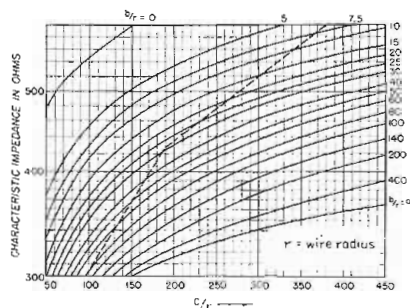
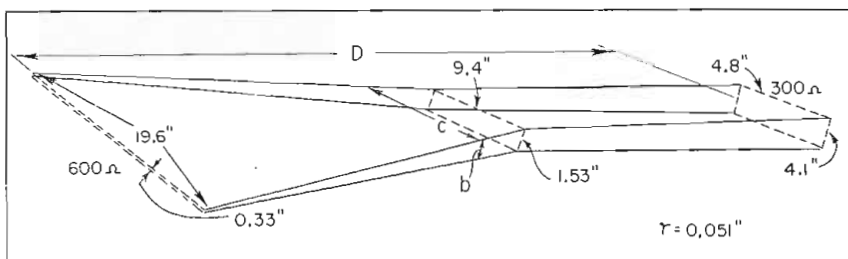

Fig. 2—Transmission-line characteristics
Fig. 1—Exponential transmission line using straight conductors
- (a) The 3 db bandwidth of a single-tuned circuit having parameters as shown in Fig. 1.
tive attenuation of the parallel RC low-pass network of Fig. 2.
References: The circuit of Fig. 1 is described in "Stagger-Tuned IF Amplifiers" by Henry Wallman, Radiation Laboratory Report No. 524 dated January 28, 1944. The circuits of Fig. 2 and Fig. 3 are described in "Principles of Television Engineering" by D. G. Fink, McGraw-Hill Book Co., pp. 211-218.
EXAMPLE 1. The circuit shown in Fig. 1 is to be used to couple two successive stages of an IF amplifier. It has been determined that the 3 db bandwidth of the circuit must be 3.4 mc, and that the equivalent shunt capacitance of the circuit is $25\mu\mu\text{f}$. What equivalent resonant resistance must the circuit exhibit?
EXAMPLE 2. Fig. 2 is a low-pass network. The specifications require that the output be 70% of the input at 5000 cycles, and drop off sharply beyond this frequency. A $0.05\mu\text{f}$ capacitor is available. What value of R will accomplish the desired results? For a problem in this range use only the light face scales on the nomograph. Draw
An exponential transmission line is used at high frequencies for transforming impedances over a wide frequency band. To avoid the inconvenience of an exponential line structure, a balanced, four-wire transmission line made of straight conductors with tapering distances between the wires, (Fig. 1), was designed to approximate closely the characteristics of an exponential line. The mechanical construction of the line is greatly simplified if the wire radius, r , remains constant and if the wire spacings, b and c , can be arranged to vary linearly with the distance, D , along the line over an appreciable length of the line.
In Fig. 2 the characteristic impedance of transmission lines is plotted on a logarithmic scale against the ratio c/r (horizontal wire spacing to wire radius) for a series of values of the ratio b/r (vertical wire spacing to wire radius). If the radius, r , is constant and the spacing c varies linearly
at 424 ohms. The actual transmission line is illustrated in Fig. 1 where the dimensions are given; it is designed for a frequency range of from 6 to 20 mc and extends over 40 meters. Tests proved it to be satisfactory, the maximum departure of the impedance level of this line from a true exponential line is only one per cent.—JZ